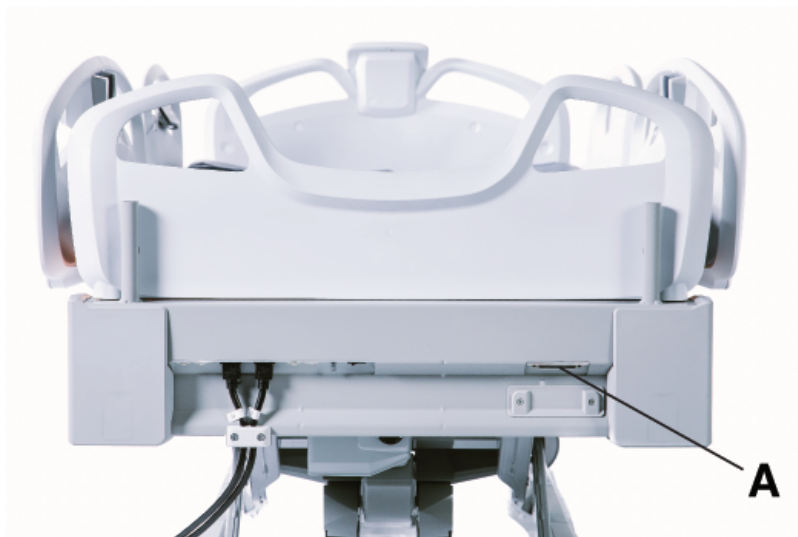

Figure 4 – 37-pin connector
1. Plug the interface cable into the 37-pin connector on the litter frame at the head end of the product (A) (Figure 4).
3. Press the **Nurse call** button (B) to verify the connection between the product's nurse call signal and the hospital's nurse call system (*Operator control panel, basic, outside siderail* (page 33), *Operator control panel, advanced, outside siderail option* (page 34)).